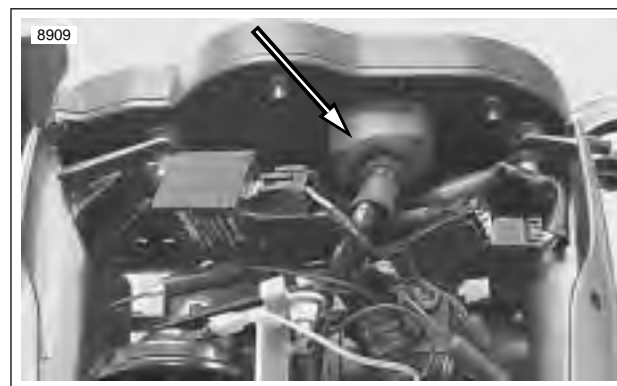
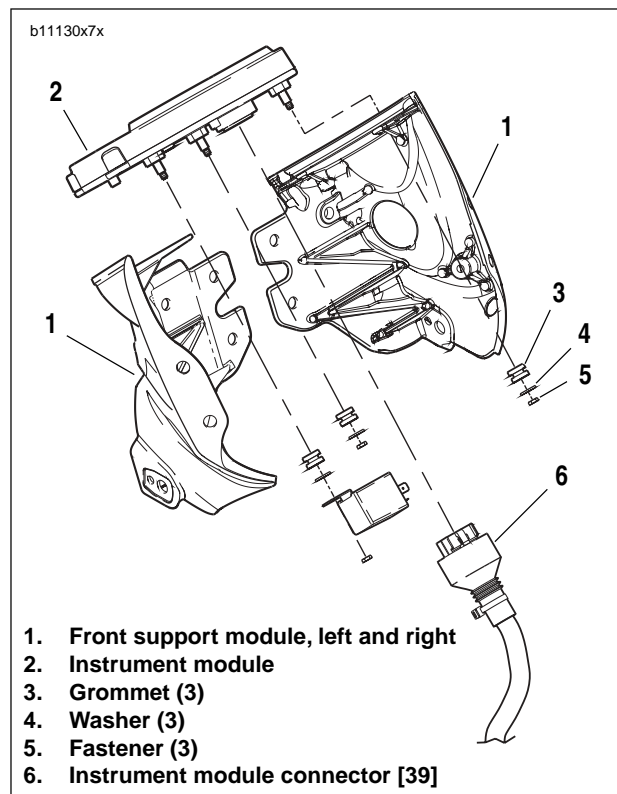

Figure 7-63. Instrument Module Connector [39]
Figure 7-64. Instrument Module
4. See Figure 7-63. Disconnect instrument module connector [39].
5. See Figure 7-64. Remove fasteners (5) and washers (4).
6. Pull instrument module (2) from front support module (1).
1. See Figure 7-64. Place instrument module (2) into position in front support module (1).
2. Install washers (4) and fasteners (5). Tighten fasteners to 12-36 **in-lbs** (1.4-4.1 Nm).
3. See Figure 7-63. Connect instrument module connector [39].